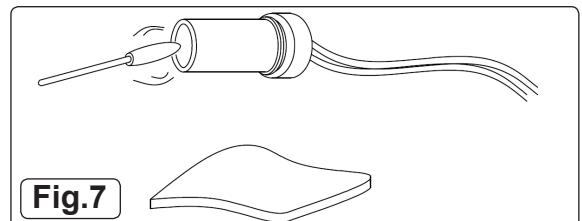

Fig.7
6.5.1. Use a cotton swab dipped in water or alcohol to clean the lens of the Photocell (Figs.7 and 8).